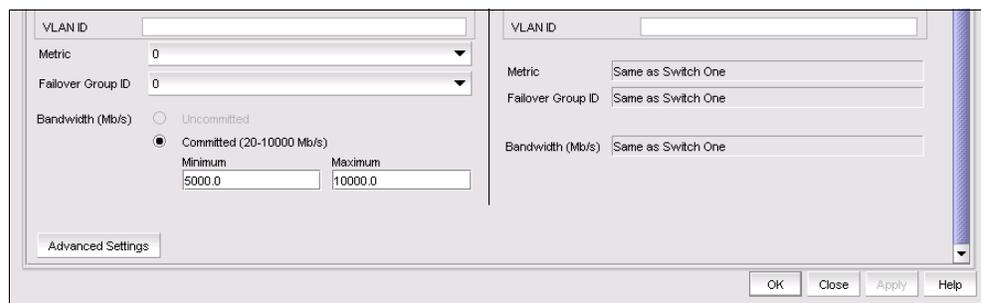

Figure 4-10 Input Metric and Failover Group ID for circuits
- j. The **Metric** option is used to identify the failover circuit (Figure 4-10). If the value 0 (default value) is assigned, this circuit is used as the active circuit for load balancing. If the value 1 is assigned, it is used as the standby circuit to operate during circuit failover. In our scenario, we assign value 0 for the circuits 34.0 and 34.2 and value 1 for 34.1 and 34.3.